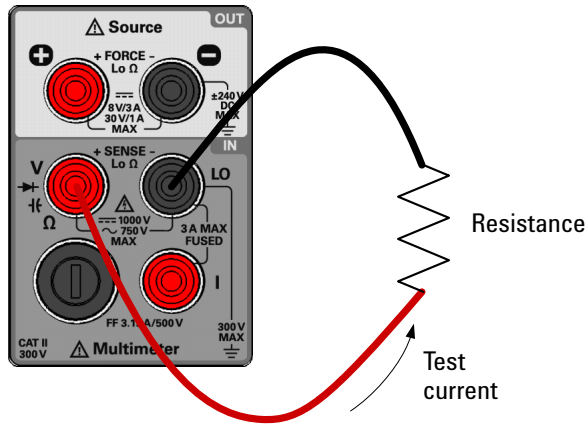

Figure 2-3 Terminal connections for 2-wire resistance measurements
- 2 Connect the red and black test leads to input terminals Ω (red) and **L0** (black) respectively as shown in **Figure 2-3**.